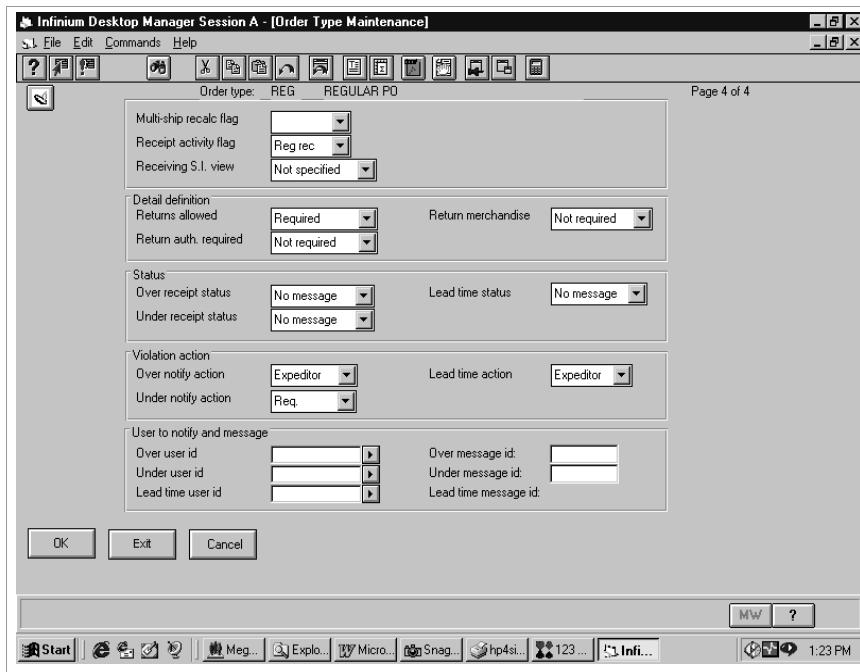

Figure 4-17: Order Type Maintenance screen 4
- 7 Press Enter. The system displays the screen shown in Figure 4-17.